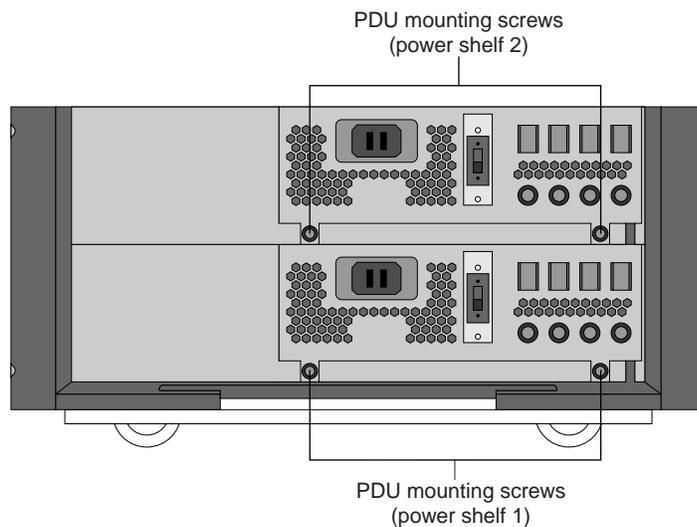

Figure 27. PDU mounting screw locations
7. Using a #2 Phillips screwdriver, remove the two screws that mount the PDU to the power shelf (Figure 27).
3. Replace the two screws that secure the PDU to the power shelf (Figure 27).